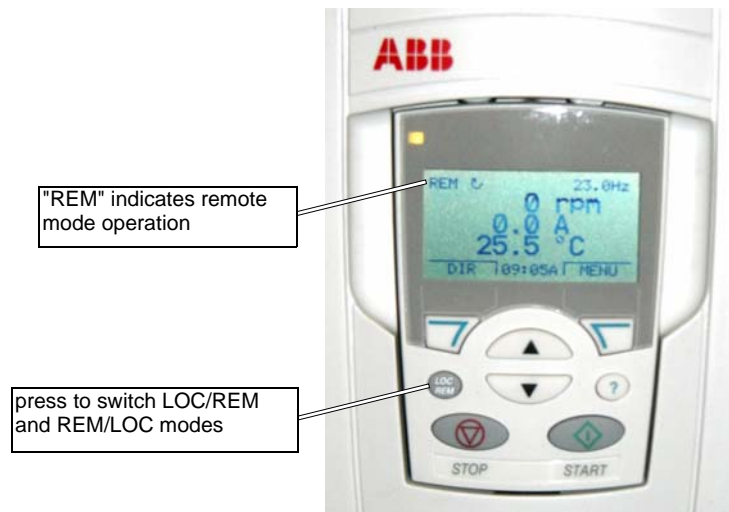

Figure 8-6: VFD Remote (REM) Mode
6. Check the display on the VFD keypad inside the electrical enclosure. It should display the condition "REM" in the upper left corner of the display. If the VFD does not show "REM", press the LOC/REM button on the VFD display panel to put the drive into remote control mode (REM). In local mode (LOC) the drive does not respond to commands from the OMAX keypad, or from the OMAX controller. Refer to Figure 8-6.